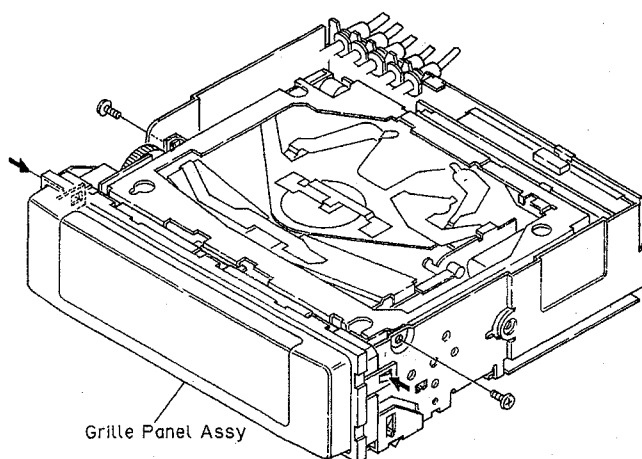

Fig.3
- 1.Remove the two screws.(Fig.3)
- 2.Disconnect the two stoppers indicated by arrows.(Fig.3)